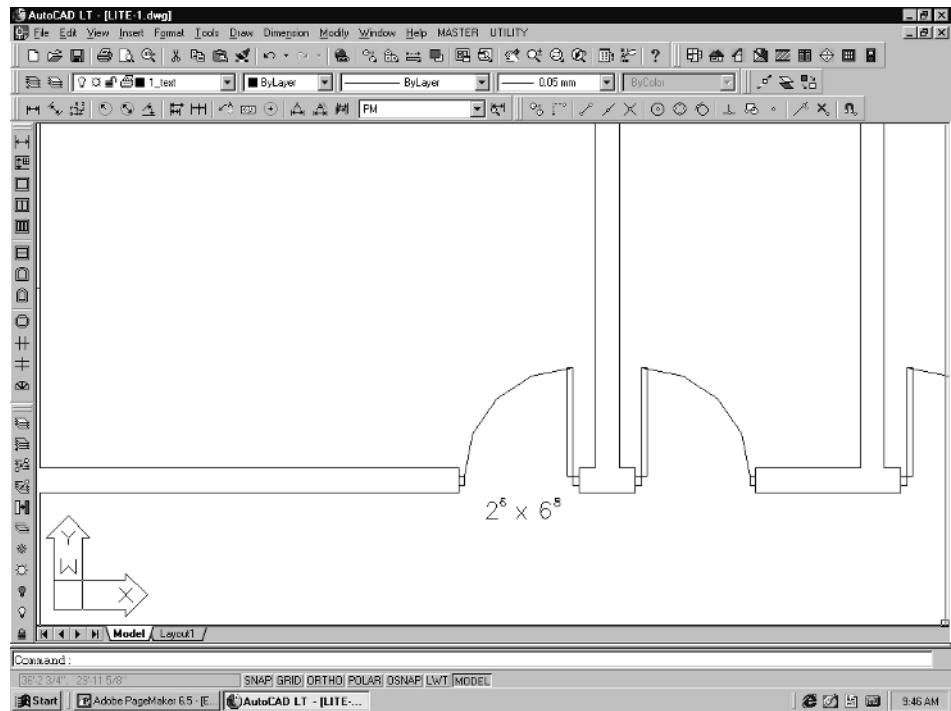

Figure 6-38
3. A dialog box will then pop up with the door label information. Change as necessary. You may accept the defaults and then come back later and make changes to this information. Pick **OK** when done. The door label will be drawn, as in Figure 6-38, and the door menu will pop back up, ready to insert the next label.